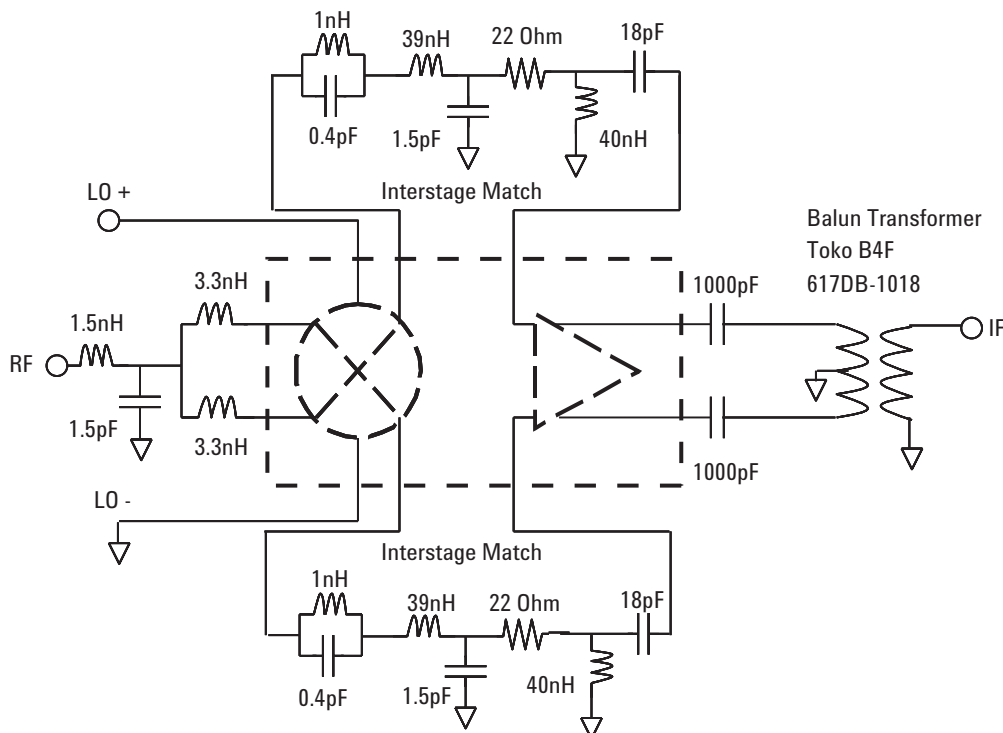

Figure 4. IAM-93516 demoboard schematic optimally tuned at $F_{\text{RF}} = 1.91\text{GHz}$ and $F_{\text{LO}} = 1.7\text{GHz}$
- 9. Results shown are based on Figure 4, which is optimally tuned for optimum conversion loss, IIP3, isolation and noise figure.